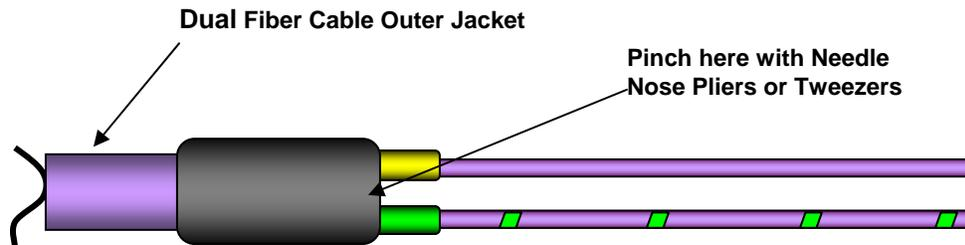

Figure 7-14 – Shrinking Down the Black Heat Shrink Sleeve
Step 6 - Shrink down the black heat shrink sleeve using a heat gun no hotter than 210°C. While the heat shrink is still hot take a pair of needle nose pliers or tweezers and pinch the black heat shrink sleeve between the yellow and green heat shrink sleeves to seal the juncture. See Figure 7-14.